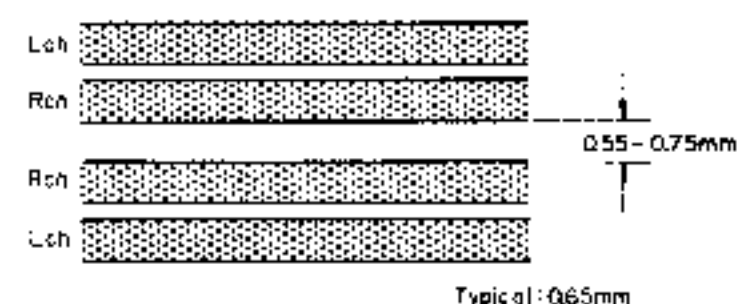

Fig. 2.16
- (l) Immerse the recorded tape in a magnetized developing solution. In turn, check to insure that the recording head tracks across the center are separated with a distance of 0.55 to 0.75 mm (typically 0.65 mm) as illustrated in Fig. 2.16.